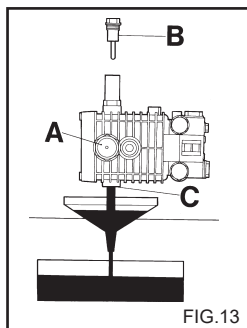

FIG.13
2) Unscrew the cap with the dipstick (fig. 13).